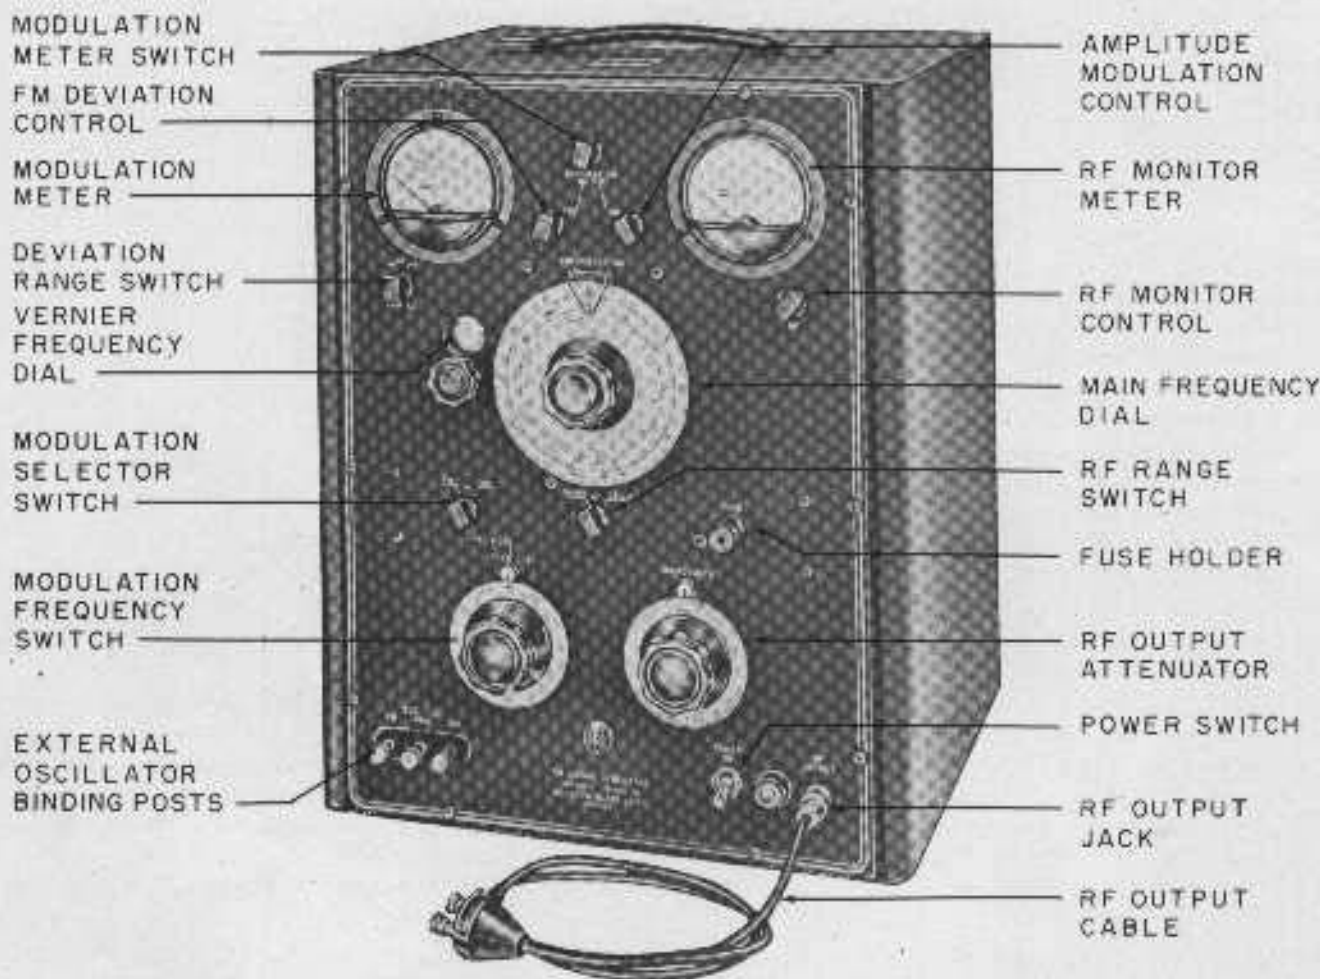

Fig. 2. Front Panel Controls of 202-B AM-FM Signal Generator
### a. PRELIMINARY (Fig. 2).
c. OPERATING CONTROLS (Fig. 2).